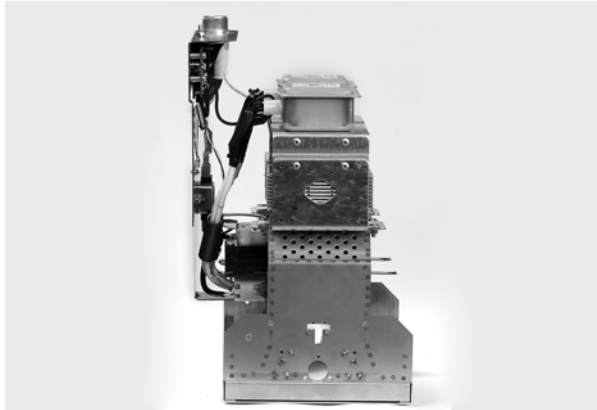

Figure 5-14 Transformer and Connector Bracket
5. See Figure 5-14. Pull the the transformer and connector bracket from the lamphead base.